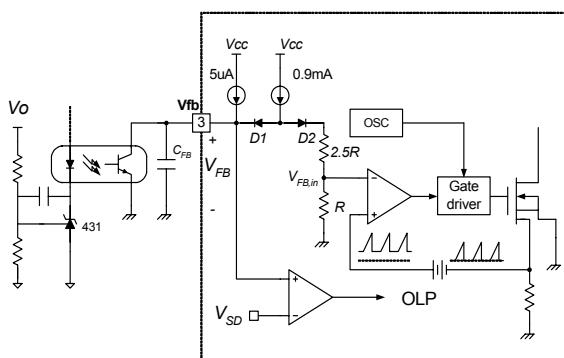

Figure 5. Pulse Width Modulation (PWM) Circuit
2. Feedback Control : The FSDx321 employs current mode control, as shown in Figure 5. An opto-coupler (such as the H11A817A) and shunt regulator (such as the KA431) are typically used to implement the feedback network. Comparing the feedback voltage with the voltage across the R_{sense} resistor plus an offset voltage makes it possible to control the switching duty cycle. When the KA431 reference pin voltage exceeds the internal reference voltage of 2.5V, the opto-coupler LED current increases, the feedback voltage V_{fb} is pulled down and it reduces the duty cycle. This event typically happens when the input voltage is increased or the output load is decreased.
4.4 Over Voltage Protection (OVP) : In the event of a malfunction in the secondary side feedback circuit, or an open feedback loop caused by a soldering defect, the current through the opto-coupler transistor becomes almost zero (refer to Figure 5). Then, V_{FB} climbs up in a similar manner to the over load situation, forcing the preset maximum current to be supplied to the SMPS until the over load protection is activated. Because excess energy is provided to the output, the output voltage may exceed the rated voltage before the over load protection is activated, resulting in the breakdown of the devices in the secondary side. In order to prevent this situation, an over voltage protection (OVP) circuit is employed. In general, V_{cc} is proportional to the output voltage and the FPS uses V_{cc} instead of directly monitoring the output voltage. If V_{CC} exceeds 19V, OVP circuit is activated resulting in termination of the switching operation. In order to avoid undesired activation of OVP during normal operation, V_{cc} should be properly designed to be below 19V.